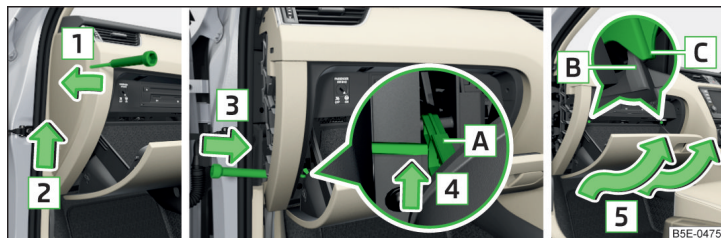

Fig. 344 Storage compartment on the front passenger side
- Insert a screwdriver under the side cover » Fig. 344.
- Move the stop buffer **B** of the storage compartment behind the brackets **C** » Fig. 344.